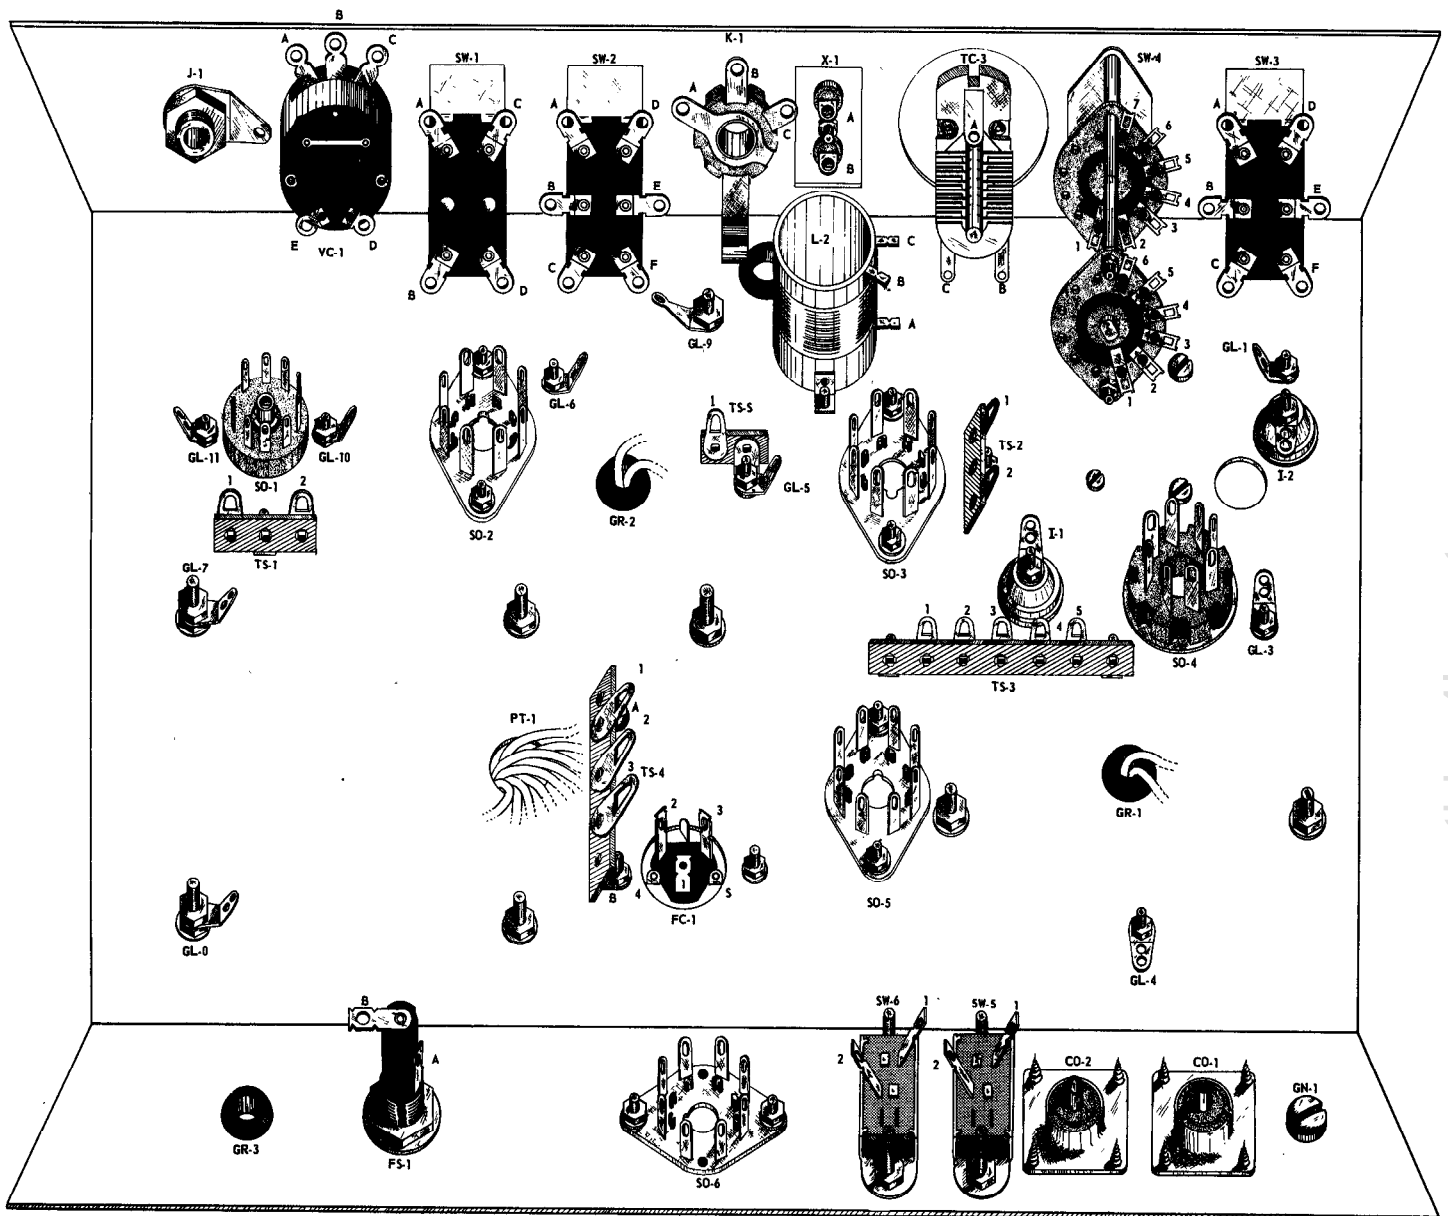
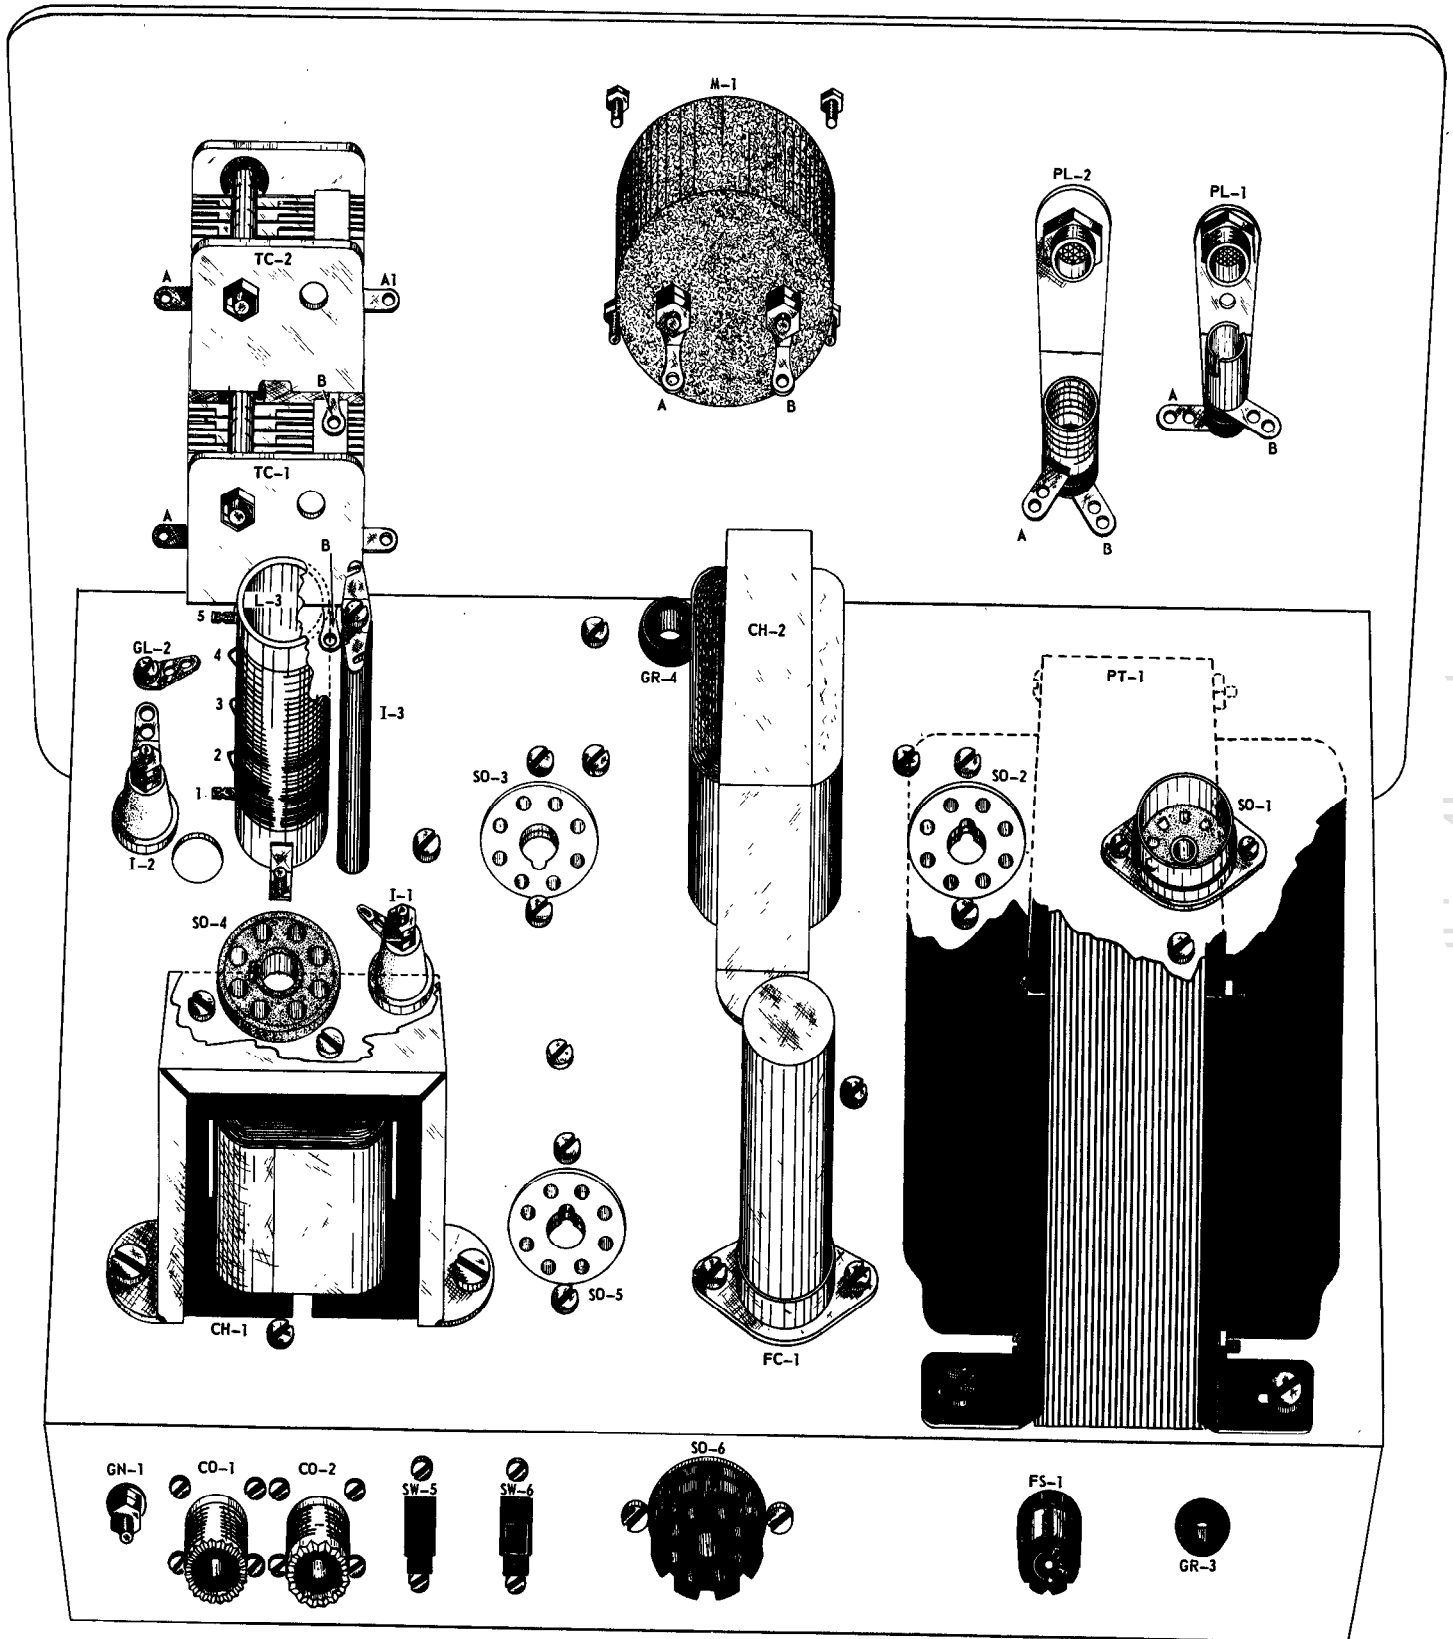
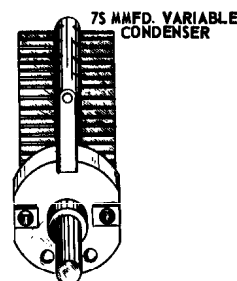

Figure 2. Bottom View, Parts Mounting.
Figure 3. Top View, Parts Mounting.
Figure 13.
- ☐ 1. Unpack the punched chassis and lay it on a table, open side towards you. Position the chassis so that the holes may be identified as per Fig. 2.
- ☐ 4. Install these grommets in their respective holes as shown in Fig. 2.
- ☐ 5. The remaining rubber grommet (1/2") is GR-4. Install as per Fig. 3.
- ☐ 6. Install an octal wafer socket in the chassis hole marked SO-2. The socket should be mounted on the inside of the chassis. Position the socket key way as shown in Fig. 2. Use two each 6-32x5/16" screws, #6 lockwashers and 6-32x1/4" hex nuts. Tighten securely.
- ☐ 7. Install an octal wafer socket in the chassis hole SO-3. Refer to Fig. 2 for
- ☐ 8. Install an octal wafer socket in the chassis hole SO-5. Refer to Fig. 2 for correct key way positioning. Secure the socket using two each 6-32x5/16" screws, #6 lockwashers and 6-32x1/4" hex nuts. Tighten securely.
- ☐ 9. Install an octal wafer socket in the chassis hole SO-6. Refer to Fig. 2 for correct key way positioning. Secure the socket using two each 6-32x5/16" screws, #6 lockwashers and 6-32x1/4" hex nuts. Tighten securely.
- ☐ 10. Install the octal mica filled socket in the chassis hole SO-4. Place the socket into the hole from the top of the chassis. Position the key way as shown in Fig. 3. Install the socket retainer ring making certain it is firmly seated in the socket groove.
- ☐ 11. Install the 9-pin miniature socket in chassis hole SO-1. Position the socket lugs as per Fig. 2. Secure the socket with two each 2-56x3/8" screws, 2-56x3/16" hex nuts and #4 lockwashers. Tighten securely but be careful not to strip the screw threads or break the screws.
(b) Insert the fuse post into hole FS-1 from the outside of the chassis. Position the fuse post lugs as shown in Fig. 2.
- ☐ 13. Install slide switch SW-6 from the inside of the chassis. Only the black bakelite handle should protrude through the slot in the chassis. Position the two switch lugs as shown in Fig. 2. Secure the switch with two each 4-40x 3/8" screws, #4 lockwashers and 4-40x 3/16" hex nuts. Tighten securely.
- ☐ 18. Mount a 2-lug tie strip TS-1 on the hole near socket SO-1. Use a 6-32x 5/16" screw, a #6 lockwasher and a 6-32x1/2" hex nut. Position the tie strip as per Fig. 2 and tighten securely.
- ☐ 19. Mount a 2-lug tie strip TS-2 on the hole near SO-3. Use a 6-32x5/16" screw, a #6 lockwasher and a 6-32x1/2" hex nut. Position the tie strip as per Fig. 2 and tighten securely.
32x5/16" screws, #6 lockwashers and 6-32x1/2" hex nuts. Position the tie strip as per Fig. 2 and tighten the nuts securely.
- ☐ 21. Mount one end of the 3-lug tie strip TS-4 on the chassis in hole marked "A". Use a 6-32x5/16" screw, a #6 washer and a 6-32x1/2" hex nut. Position the tie strip as per Fig. 2, align the remaining mounting hole with chassis hole marked "B". Securely tighten nut on screw in hole "A".
- ☐ 22. Install the mounting plate for the filter capacitor FC-1 on the chassis hole FC-1. The plate should mount on the top side of the chassis. Position the slots of the plate as per Fig. 2. Use two each 6-32x5/16" screws, #6 lockwashers and 6-32x1/2" hex nuts. Center the mounting plate slots in the chassis hole, then secure the nuts. This action also completes the mounting of tie strip TS-4.
(c) Position the tie strip and lug per Fig. 2.
- ☐ 25. Mount the two #6 grounding lugs GL-1 and GL-2. GL-2 mounts on the top side of the chassis (position as per Fig. 3) and GL-1 mounts on the underside of the chassis (position as per Fig. 2). Use a 6-32x5/16" screw and a 6-32x1/2" hex nut to secure the lugs. Screw-head should be on top side of the chassis.
- ☐ 26. Mount a #6 grounding lug, GL-3, in the hole near socket SO-4. Use a 6-32x 5/16" screw and a 6-32x1/2" hex nut. Position the lug per Fig. 2 and tighten the nut securely.
1 and CO-2. Use a 6-32x5/16" screw and a 6-32x1/4" hex nut. Position the lug per Fig. 2 and tighten the nut securely.
- ☐ 28. Install a #6 grounding lug, GL-6, in the hole near socket SO-2. Use a 6-32x5/16" screw and a 6-32x1/4" hex nut. Position the lug per Fig. 2 and tighten the nut securely.
(f) Position the lug as per Fig. 3 and securely tighten the nut.
- ☐ 30. Remove one of the 6-32x1/4" hex nuts and the flat washer from the short end of insulator I-1 (underside of chassis). Place a #6 grounding lug on the screw. Add the flat washer and finally the 6-32x1/4" hex nut previously removed. Position the grounding lug per Fig. 2 and tighten the nut securely.
- ☐ 32. Mount the oscillator coil L-2 on the underside of the chassis near socket SO-3. Place the threaded mounting lugs over the mounting holes in the chassis. Make certain the coil tap lugs face as shown in Fig. 2. Use two 6-32x5/16" screws to secure the coil. Install the screws from the top side of the chassis. Tighten securely.
- ☐ 33. Mount the modulation choke CH-2 in position as per Fig. 3. Insert the two choke leads through grommet GR-2 then align the mounting holes. Use a 8-32x1/2" screw, a #8 lockwasher and an 8-32x5/16" nut for each mounting hole. A #8 grounding lug GR-9 should also be placed on the mounting screw nearest the front panel. Position the lug as per Fig. 2. Tighten both nuts securely.
- ☐ 34. Mount the filter choke CH-1 in position as per Fig. 3. Insert the choke leads through grommet GR-1 then align the mounting holes. Use two each 8-32x1/2" screws, #8 lockwashers and 8-32x5/16" hex nuts. Tighten securely.
- ☐ 36. Select the two #8 grounding lugs GL-7 and GL-8. Place one each over two of the transformer mounting screws as per Fig. 2. Secure each with an 8-32x5/16" hex nut.
capacitor mounts on the top side of the chassis. Insert the three condenser tabs into the three slots of the mounting plate as per Fig. 2. Press the condenser firmly against the plate then twist each tab one-eighth of a turn with a pair of pliers. This will secure the condenser to the mounting plate.
- ☐ 39. Mount the double-ended #6 solder lug on the top end of insulator I-3. Use a #6x $\frac{1}{4}$ " self-tapping screw. Position the lug as per Fig. 3 and tighten the screw.
- ☐ 40. Install the pi network coil L-3. Use the two remaining small holes near socket SO-4. Slip a #6 lockwasher over each of two 6-32x5/16" screws and insert the screws from the underside of the chassis. Position the coil as per Fig. 3. The coil taps should face